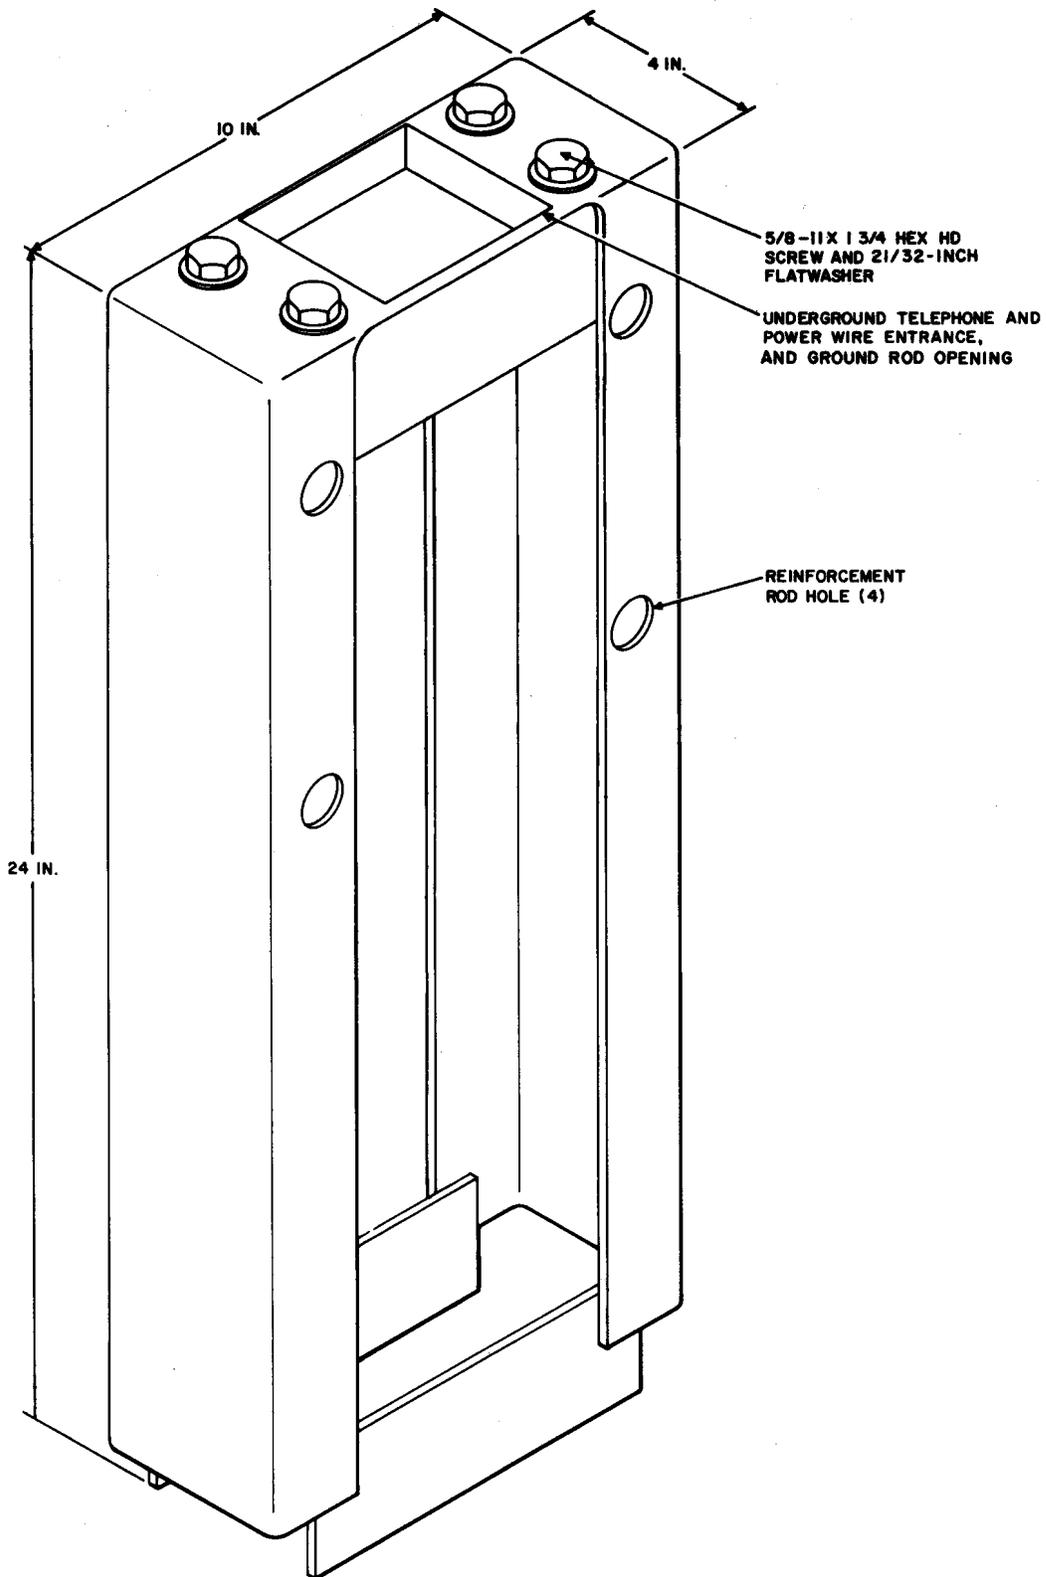

Fig. 6—List 52 (A&M Only) Buried Base
- (e) **List 52 (A&M Only) Buried Base Assembly (Fig. 6).**